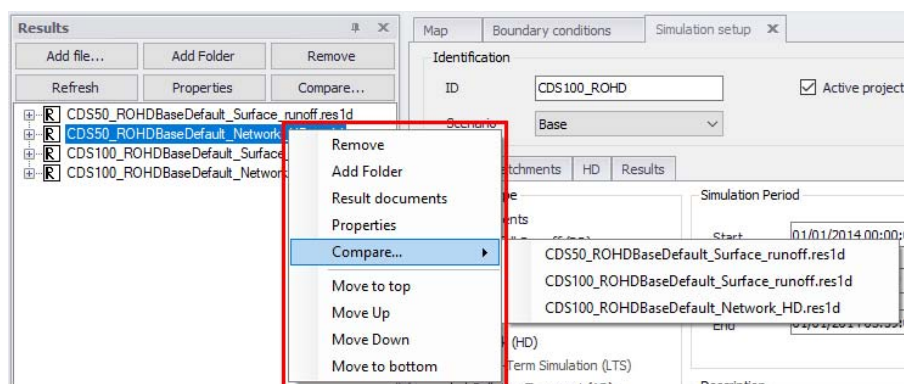

Figure 20.104 Compare results via the local context menu
- Alternatively, launch a file comparison via the results manager local context menu by right-clicking on a result file layer (Figure 20.104).